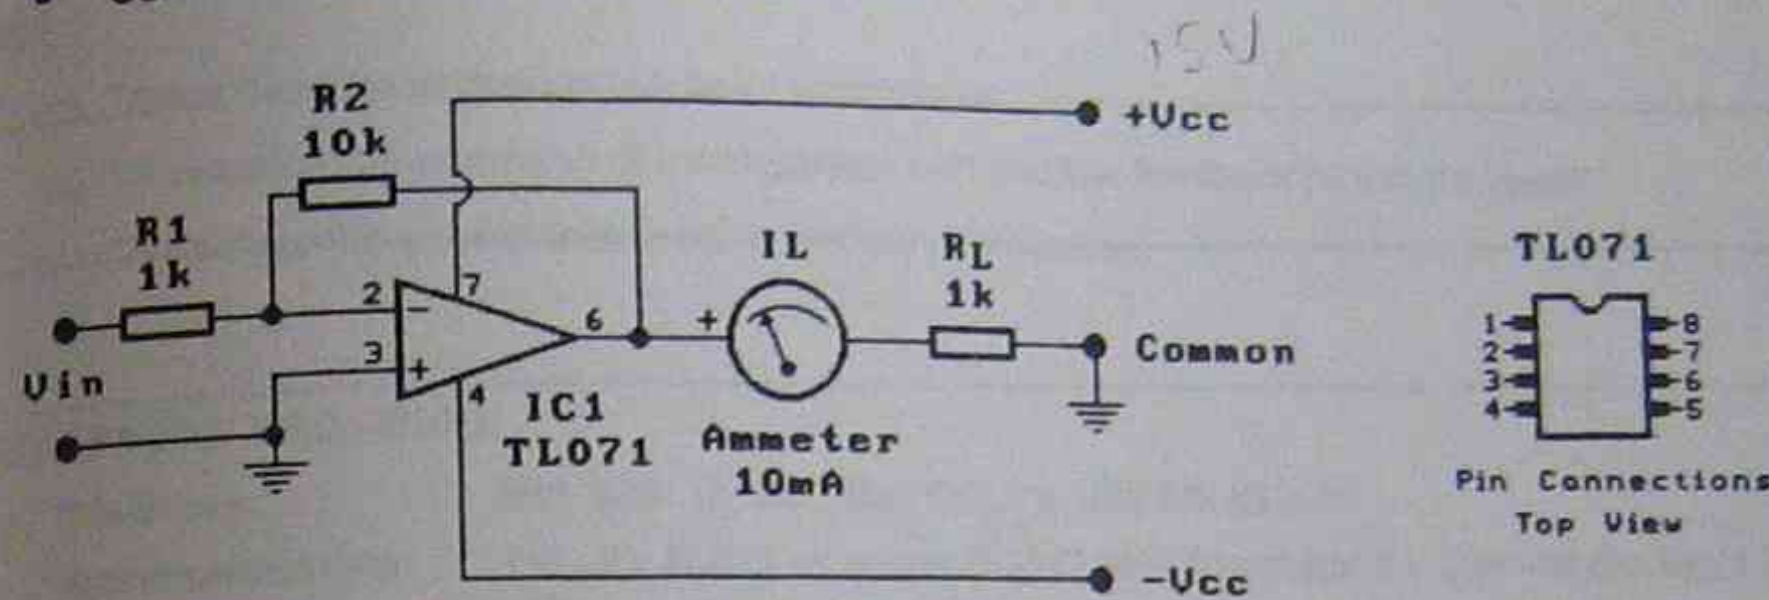

Fig.2: Output current drive of an op amp.
- Construct the circuit of Fig.2 on a breadboard.